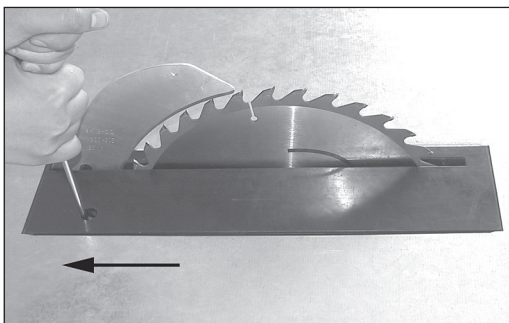

Fig 11.
4. Place the table-insert in the groove round the saw blade and pull it back, as shown in Fig 11.